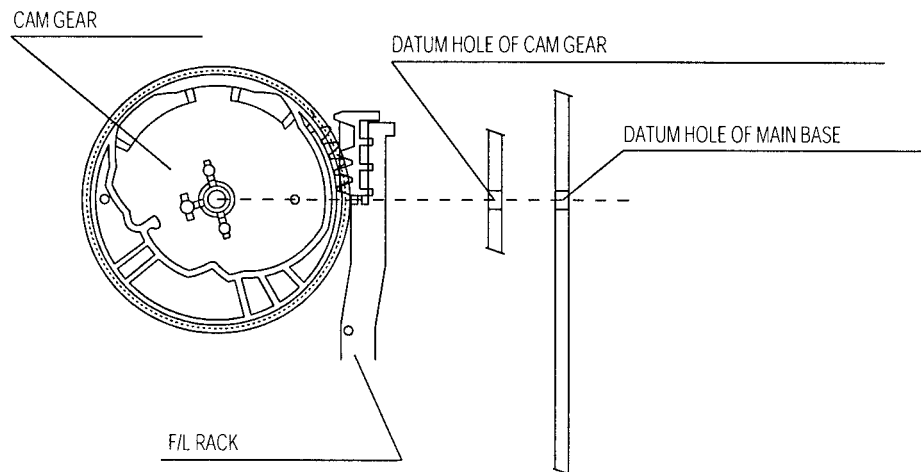

Fig.4-1 DATUM POSITION OF F/L RACK & CAM GEAR
4-1. MECHANICAL ADJUSTMENT (See Fig.4-1~4-5)
- a. Make sure that the DATUM HOLE of the CAM GEAR is aligned with the DATUM HOLE in the MAINBASE in the EJECT mode, as shown in Fig.4-1.